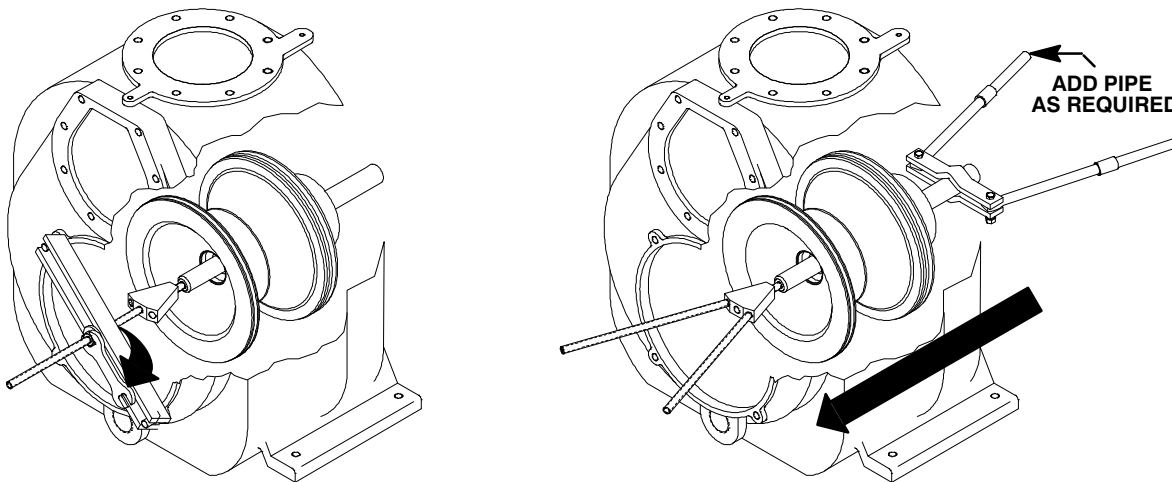

Figure E-3. Rotating Assembly Removal With Tool
Remove the inner hardware (9 and 11) from the casing ring (12). If the removal tool is used, follow the instructions packaged with it, and pull the rotating assembly from the pump casing (see Figure E-3 for removal tool use). If the removal tool is not used, install three of the inner capscrews in the jacking holes in the casing ring, and use them to press the rotating assembly into the pump casing until the bearing housing is free.
After the rotating assembly is loosened, screw a 5/8-11 UNC X 16 inch long threaded rod into the hole in the impeller shaft. Support the drive end of the shaft with a 1-13/16" (46 mm) minimum I.D. piece of pipe or a set of handles as shown in Figure E-3 and slide the complete rotating assembly through the suction head opening. Once free, use a suitable hoist and sling and attach it to the lifting eye provided at the top of the bearing housing to move the rotating assembly to a suitable work area for further disassembly.